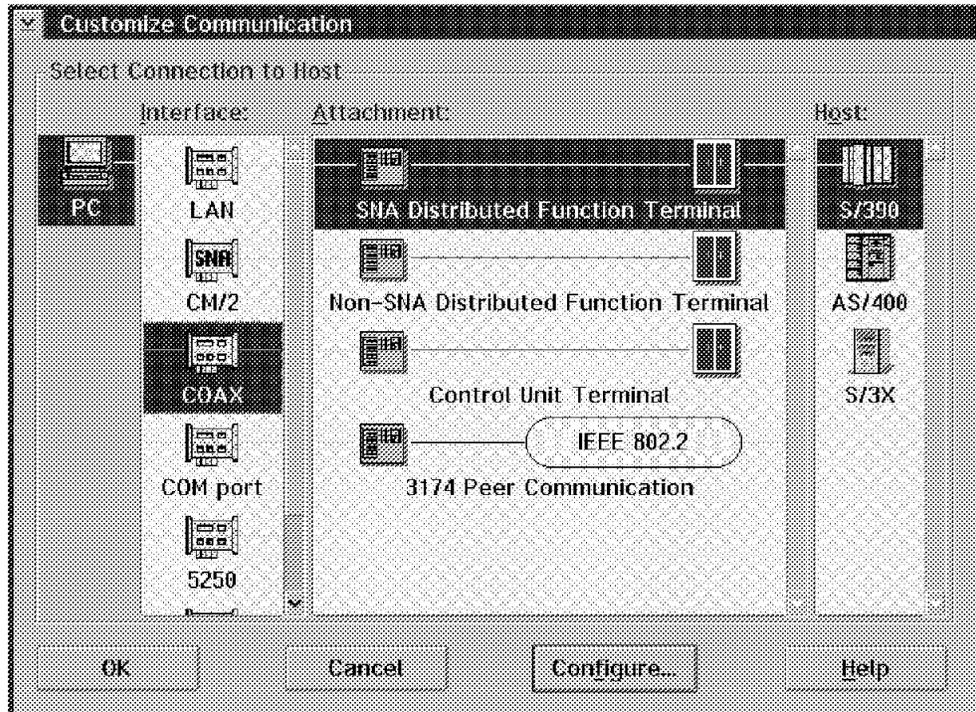

Figure 27. DFT Attachment to 3174-11L
Let's look at the DFT customization under Windows 3.1 and OS/2. To get the window shown in Figure 27, click on **Communication** in the menu bar of your workstation window (host session) and then, click on **Configure** in the displayed pull-down menu.
1. Choose **COAX** under Interface in Figure 27.